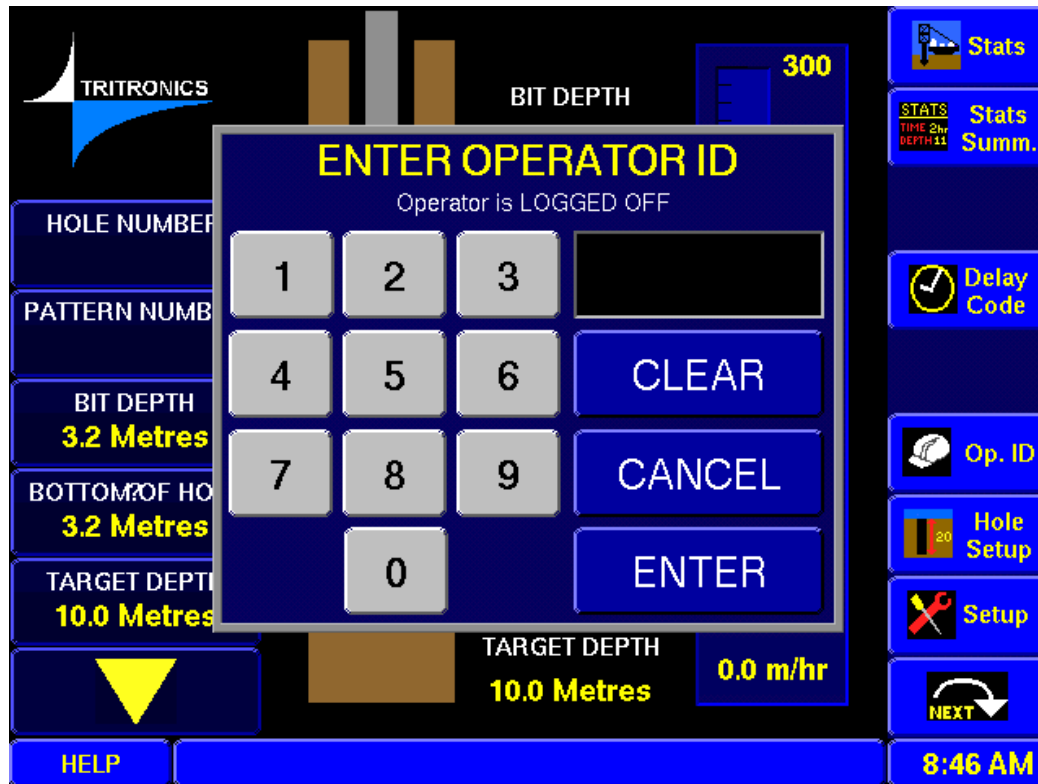

Figure 3: Entering Operator ID
2. The Enter Operator ID screen is shown in Figure 3. To logon, key in your operator code and press ENTER. As keys are pressed on the screen, they appear in the small black box to the right of the keypad.